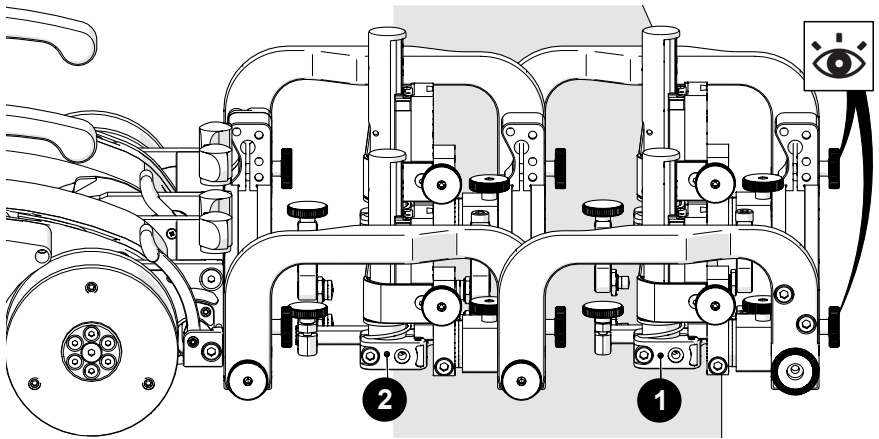

Fig. 234 - Position primary and secondary probe holders
2. Affix the probe holders (with attached wedges) to the probe holder frame. Place the secondary probe holder at the front of the **1** frame and place the primary probe holders at the rear of the **2** frame bar (Fig. 234).
3. Mount the probe holder frame to the crawler (see “Swivel Mount” on page 64 for additional details). When mounting the probe holder frame, ensure the attachment knobs (Fig. 234) are at the front (non-crawler side).